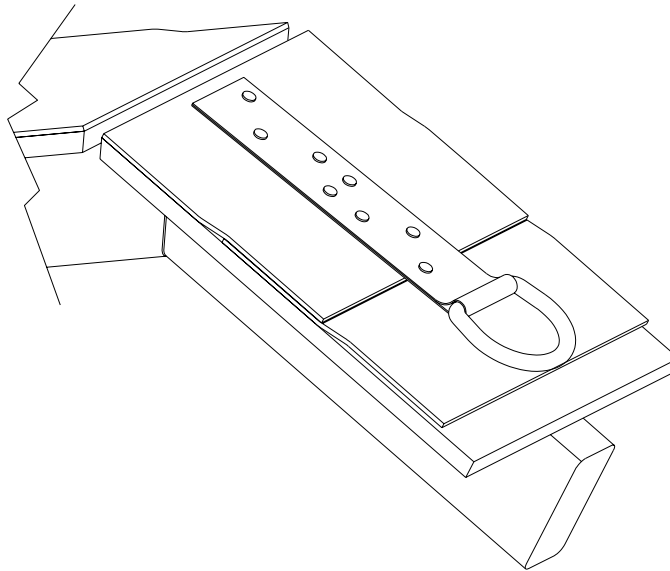

Fig. 5
B. Installation Requirements for Miller® Single D Model# RA41 Ref. Fig. 5